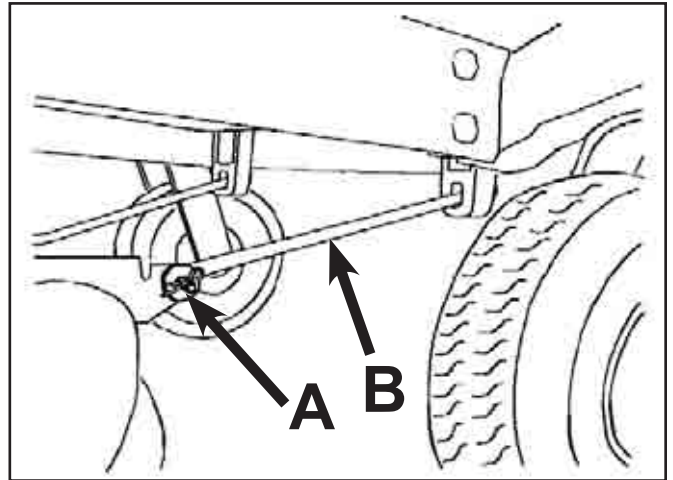

Fig A6 006 fig. 46 G000547
**Note:** After adjusting the adjustment nuts, make sure there is no slack in either support rod (Fig. A6 006). Tighten either one to remove the slack (Fig. A6 005).